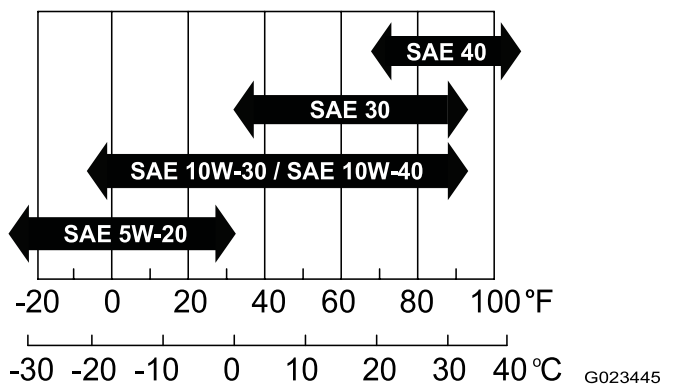

Figure 37
- **Viscosity:** SAE 30; refer to the following chart for other viscosities (Figure 37):